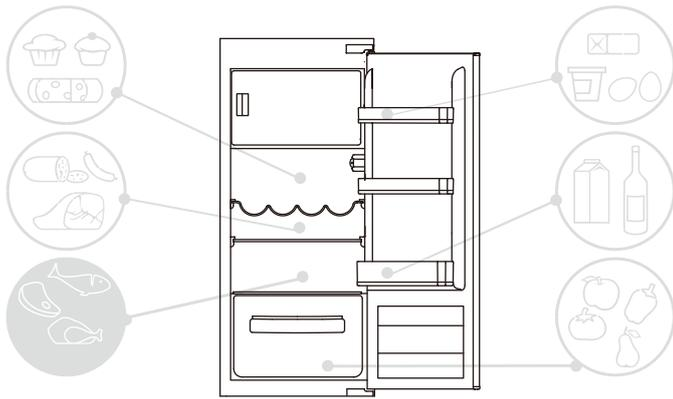

Fig. 2
• To maintain the best flavour, nourishment and freshness of foods, it is advisable to store them in the refrigerator compartment as shown in Fig. 2 below, making sure to wrap them in aluminium or plastic sheets or in appropriate covered containers to avoid cross-contamination.